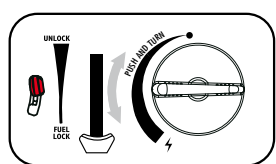

fig. 5
7. Adjust the control knob to the required position (fig.5) Never set the cartridge lever (6) to the “UNLOCK” position during use!